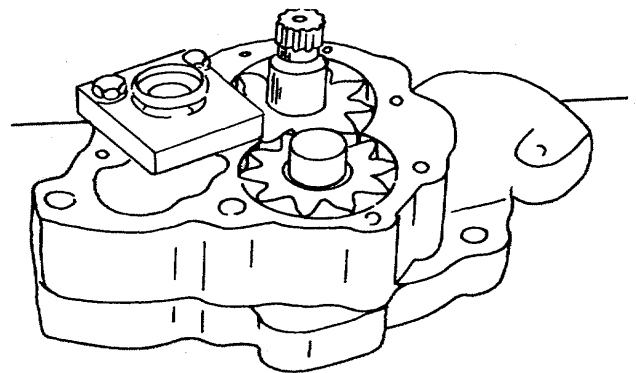

Fig. 7-10. Position The Assembly. Into The Locating Plate.
- d. Make sure the prongs of the disc are down and the lip of the seat is up when you install the bypass spring, washer, disc into the locating plate, Fig. 7-10.